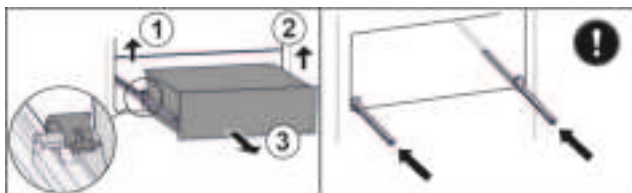

Fig. 88
- Lift left clamp and simultaneously pull drawer forwards on the left. Fig. 88 (1)
- Lift right clamp and simultaneously pull drawer forwards on the right. Fig. 88 (2)
- Remove drawer to the front. Fig. 88 (3)